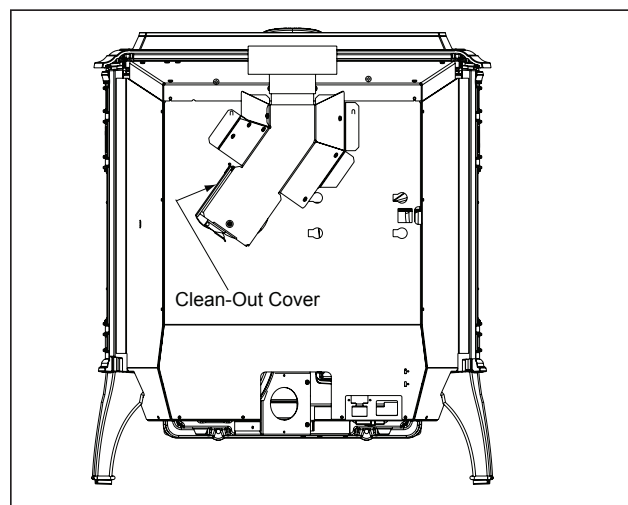

Figure 25.1
- b. Open the clean out cover. **Figure 25.1.**